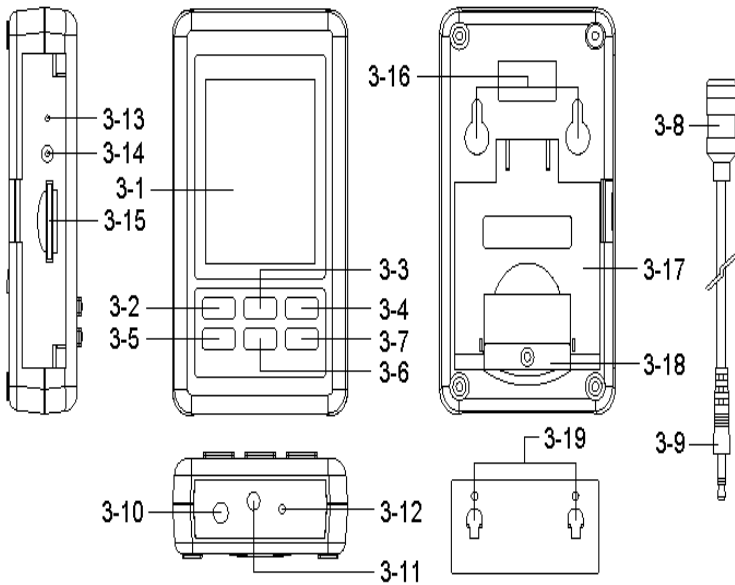

Fig. 1
- 1) Power ON the meter by pressing and holding the " Power Button " (3-2, Fig. 1)for at least 1.5 seconds, the meter's default function is " A"(frequency weighting) , " Fast"(time weighting) " Auto range ". The LCD display will show the Symbol " A, FAST , xx.x dB , 0 ".
- 3) According to various measuring sound source, select the Time Weighting (Fast or Slow) by pressing " ENTER Button " (3-7 , Fig. 1).
- 1) In " SPL " mode to select the " **Dose** " mode by pressing and holding the " RUN button " (3-4 Fig 1) into the DOSE mode .
- 4) According to various measuring sound source, select the Time Weighting (Fast or Slow) by pressing the "ENTER Button " (3-7, Fig. 1).
During the SPL measurement, press the " ▲ Button " (3-3, Fig. 1) once will hold the measured value & the LCD will display a " HOLD " symbol.
1) The data record function records the maximum and minimum readings. Press the " RUN Button " (3-4, Fig.1) once to start the Data Record function and display is shown the " REC " symbol .
- a) Press the " RUN Button " (3-4, Fig. 1) once, the " REC MAX " symbol along with the maximum value will appear on the display. Press the " RUN Button" again the " REC MIN " symbol along with the minimum value will appear on the display. Press the " RUN Button" again will show the " REC " symbol only & execute the memory function continuously.
After power ON, the " LCD Backlight " will light automatically. During the measurement, press the " POWER Button " (3-2, Fig. 1) once will turn off the " LCD Backlight ".
Pressing and holding the " ENTER Button "(3-7, Fig. 1) once , display is shown " LOGGER " , the " LOGGER " will flashing at the same time the measuring data along the time information will be saved into the memory circuit(EEPROM). and the top right will record items.
During execute the Datalogger function , if press the " ENTER Button " (3-7, Fig. 1) once will pause the Datalogger function (stop to save the measuring data into the memory circuit temporality). In the same time the text of " LOGGER " will stop flashing.
If press the " ENTER Button " (3-7, Fig. 1) once again will execute the Datalogger again, the text of " LOGGER " will flashing .
Press the " ENTER Button "(3-7, Fig. 1) continuously at least two seconds, the " LOGGER " indicator will be disappeared and finish the Datalogger.
Prepare a " SD memory card " (1 GB to 16 GB, optional), insert the SD card into the " SD card socket " (3-15, Fig. 1). The front panel of the SD card should face against the down case.